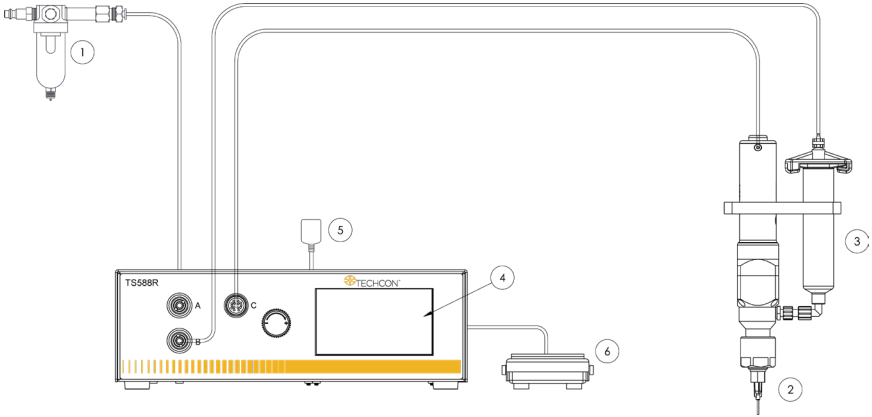

Figure 2.0
- Refer to figure 2.0 for proper pump and fluid connections.